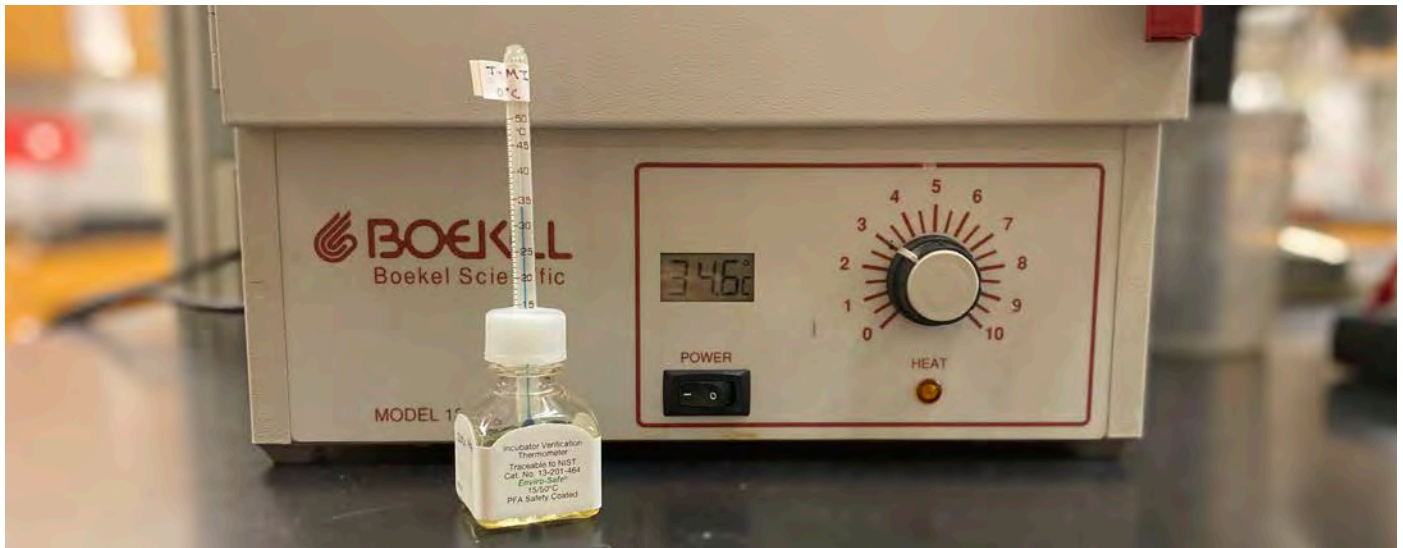

Figure 23: The digital incubator temperature may differ from the NIST thermometer. Always defer to the NIST temperature.
- “Incubation Temps 33 to 37?” refers to the NIST Temperature (Figure 23).